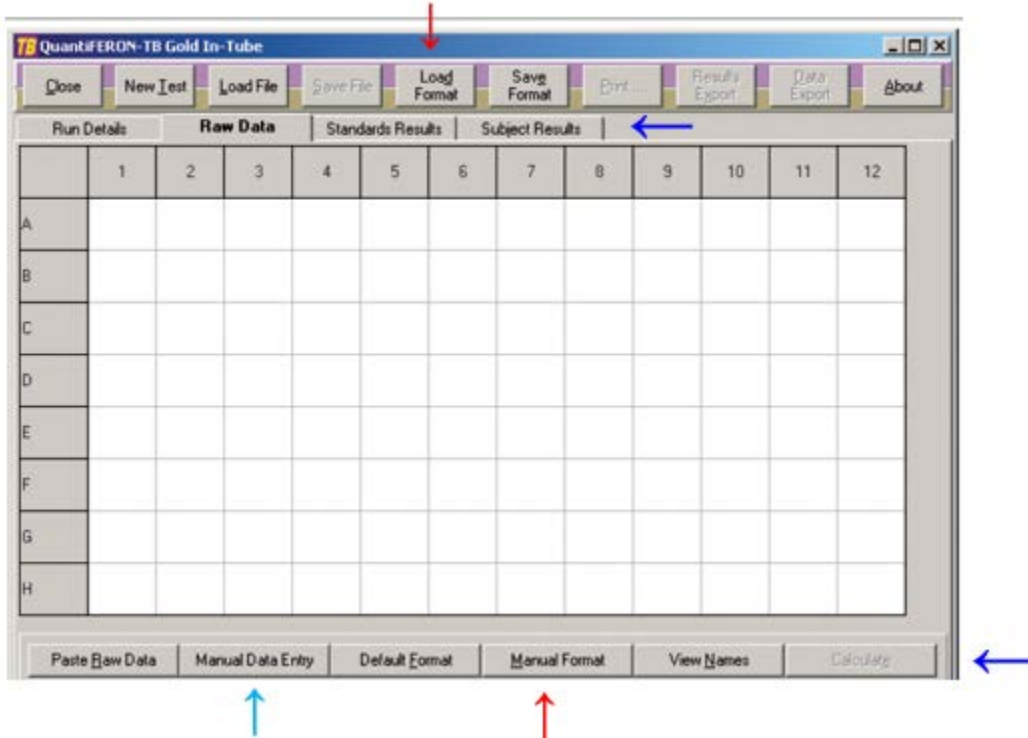

Figure 3
4) Select the Load Format Button (Figure 3 ↓) followed by the QFTB 8 point standard partial plate.qff to automatically assign the testing layout for the standards. Set up the standards in the same configuration as outlined in Figure 4. If a full plate was run select the QFTB 8 point full plate.qff.
5) Select the Manual Format button to open the manual formatting toolbar (Figure 3 ↑). This toolbar is used to manually assign plate format and sample ID's. Alternatively, subject
6) Select the Manual Data Entry button. Click on the cell to enter the data manually. Press **Enter** or click on another cell to store the value. (Figure 3 ↑).
- 7) Once the format has been generated and data entered, select the Calculate button which will now be active (Figure 3 ←), the standard curve for the assay will be automatically analyzed and the standard results screen displayed.
9) Select the Subject Results tab to proceed to next screen (figure 3 ←)